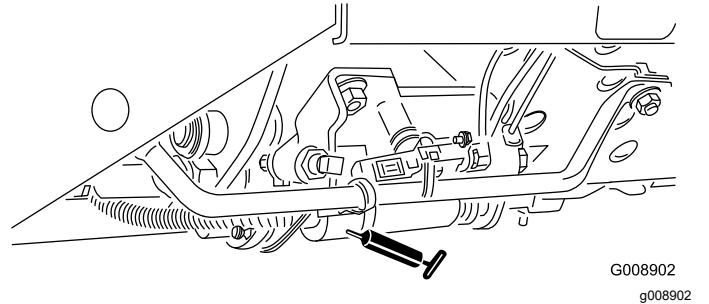

**Figure 41**
- Neutral-adjustment mechanism (Figure 41)